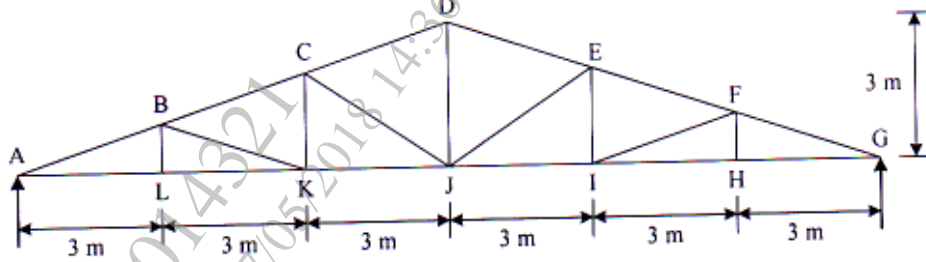

Fig. 9
- Q9)** Determine the design forces in the members AB,AL and BL of a truss as shown in Fig. 9.The design wind pressure is 900 N/m2. The truss is covered with AC sheet and the center to center spacing of truss is 6m. [18]